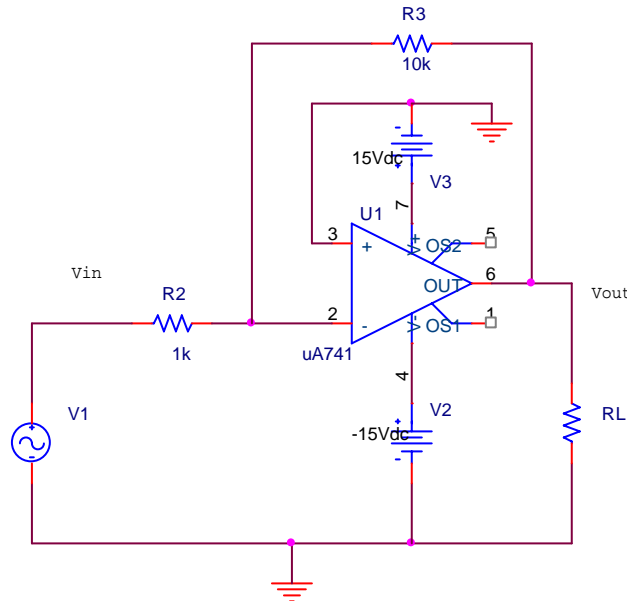

Figure A-7
- Wire the circuit shown in figure A-7 below in PSpice.
- Build the inverting op-amp circuit in figure A-7 on your protoboard.